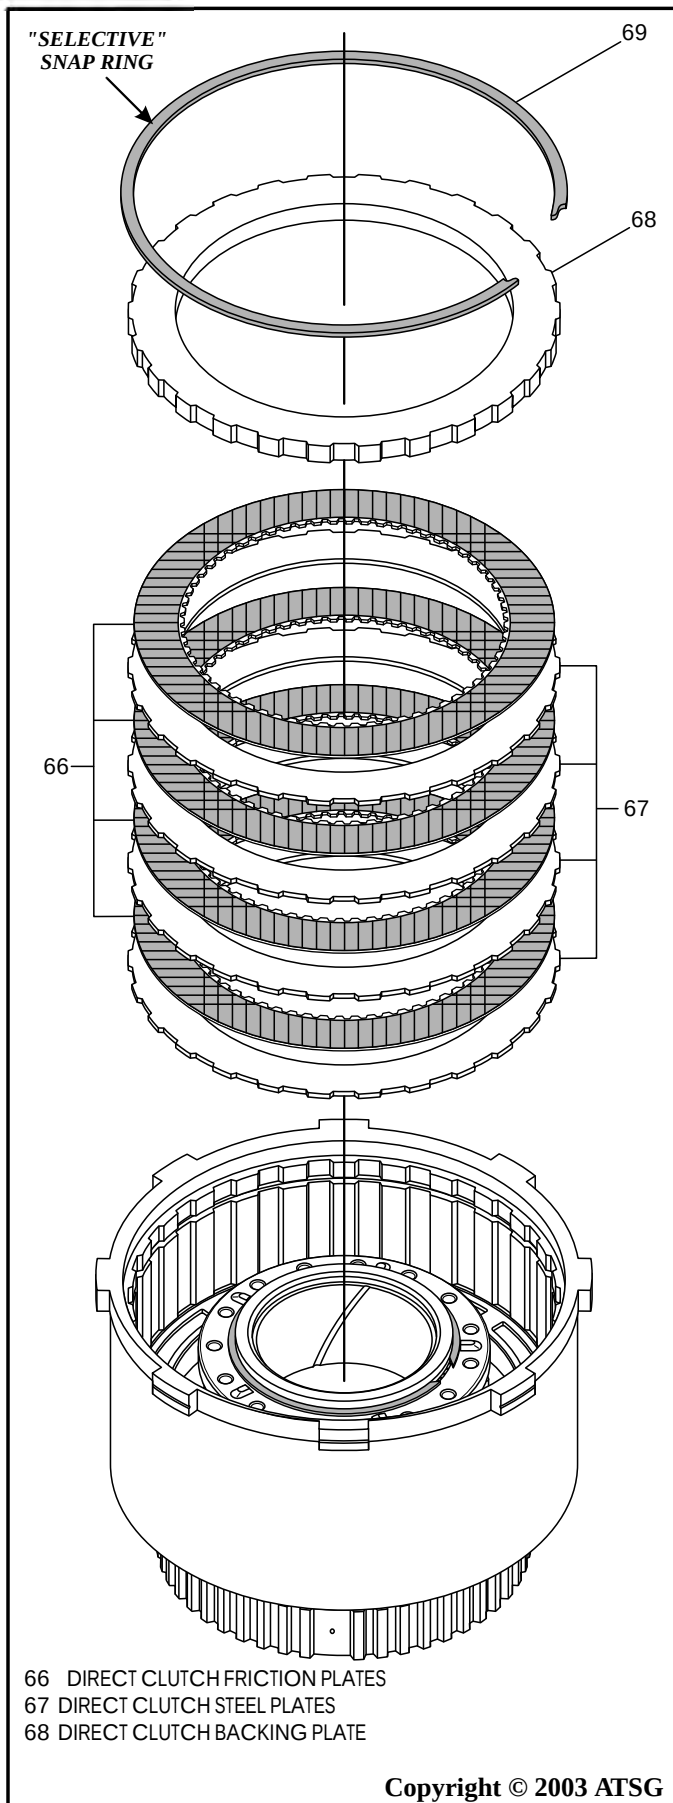

Figure 120
18. Install the direct clutch pack beginning with a steel plate and alternating with a friction plate, as shown in Figure 120, until you have proper amount of plates installed.
19. Install the direct clutch backing plate on top of the last friction plate, as shown in Figure 120.
20. Install the **selective** direct clutch backing plate snap ring, as shown in Figure 120, and ensure that it is fully seated.